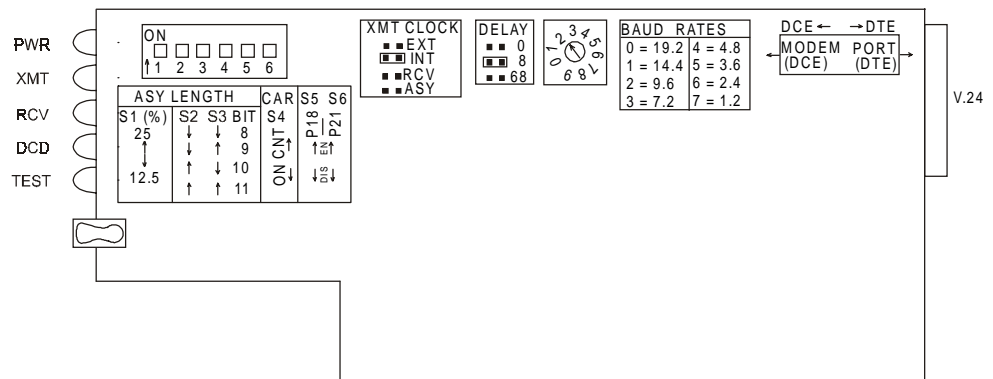

Figure 1. Strapping Diagram
- Set the modem card according to *Table 1* and *Figure 1* as follows:
- 4b. Set the modem card according to Table, Table 2 and Figure 1 as follows:
- 4c. Set the modem card according to Table 1 and Figure 1 as follows: